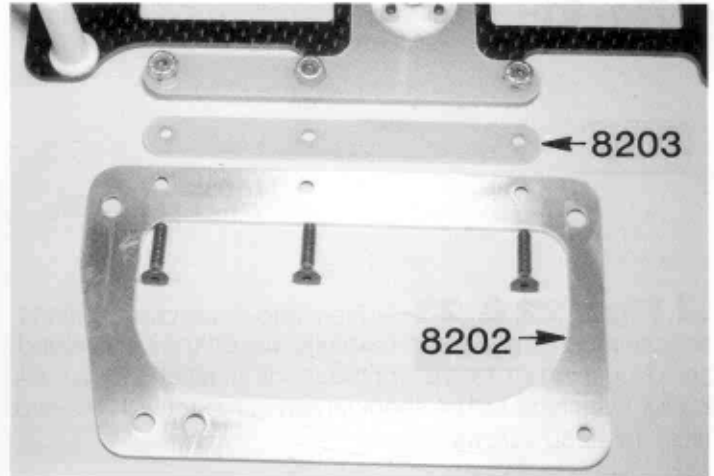

Fig. 26
□ **Figs. 26 & 27**— From Bag #5, we'll install the #8202 lower brace. First place the #8203 fiberglass spacer UNDERNEATH the T-bar. Then place the #8202 aluminum lower brace UNDERNEATH the spacer. Assemble with the three allen screws and locknuts.